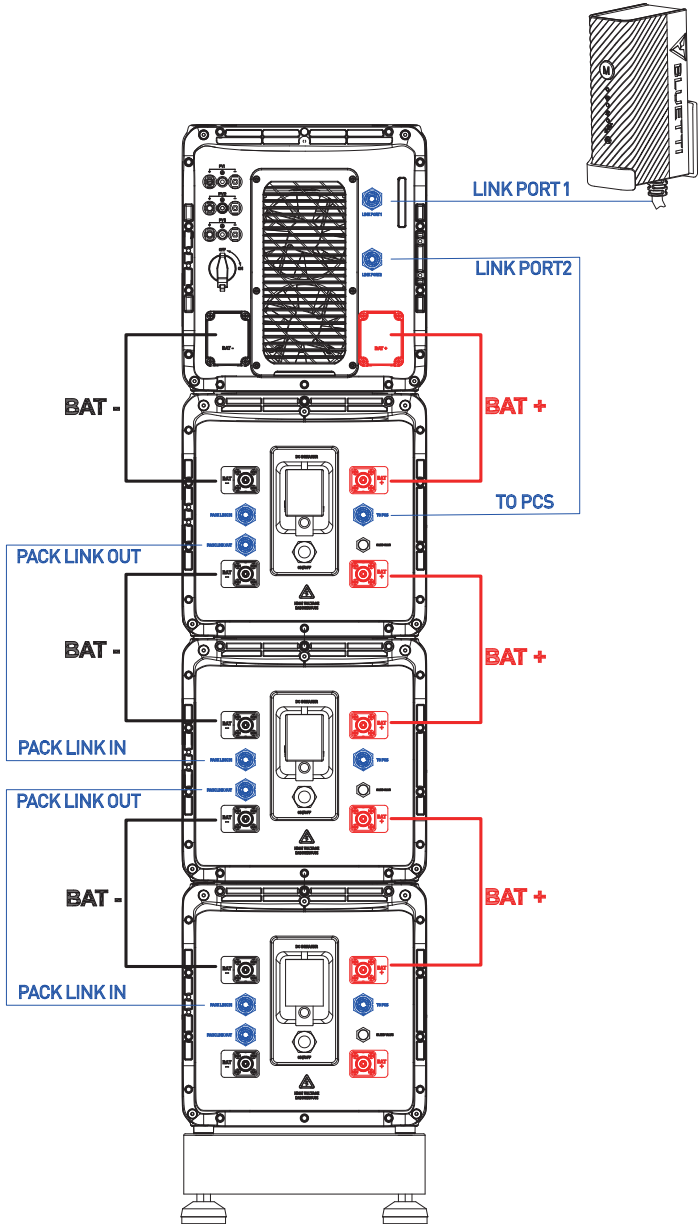

Figure 5-8
**Note:** For how to integrate multiple B500s to the EP760 ESS, please refer to Figure 5-8.